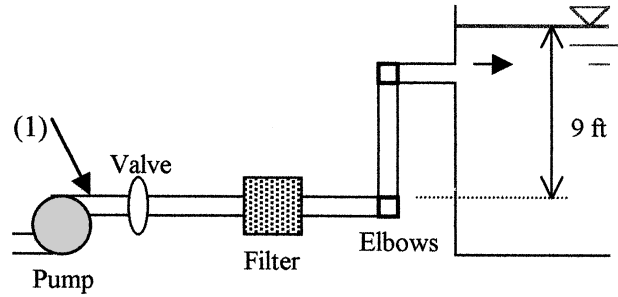

Fig. P6.108
6.108 The water pump in Fig. P6.108 maintains a pressure of 6.5 psig at point 1. There is a filter, a half-open disk valve, and two regular screwed elbows. There are 80 ft of 4-inch diameter commercial steel pipe. (a) If the flow rate is $0.4 \text{ ft}^3/\text{s}$, what is the loss coefficient of the filter? (b) If the disk valve is wide open and $K_{\text{filter}} = 7$, what is the resulting flow rate?